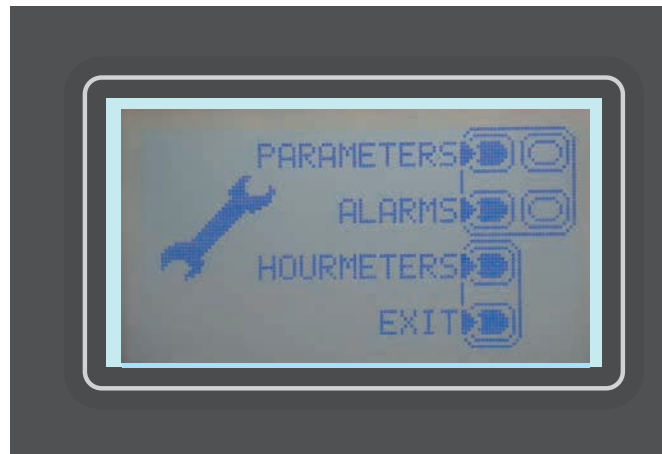

Figure 5
1. Turn the ignition key to the starting position “I” while holding down the One-Touch  and right side broom  push-buttons simultaneously to access the main screen (Figure 5).
4. To return to the main screen (Figure 5), press and hold the hopper lowering push-button
To return to the main screen (Figure 5), press the hopper lifting push-button  repeatedly.
To return to the main screen (Figure 5), press the hopper lifting push-button.